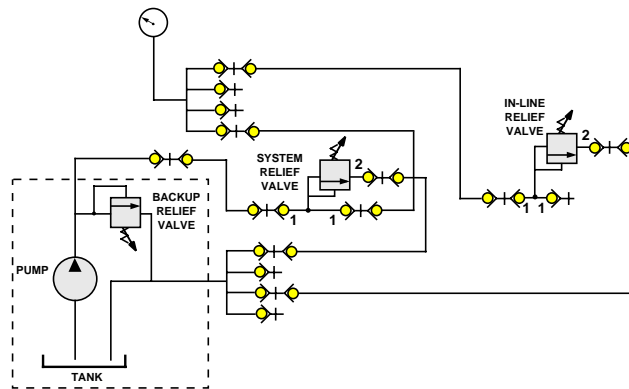

Fig. 3.2.2 Circuit
1. Build the circuit shown in Fig. 3.2.2.